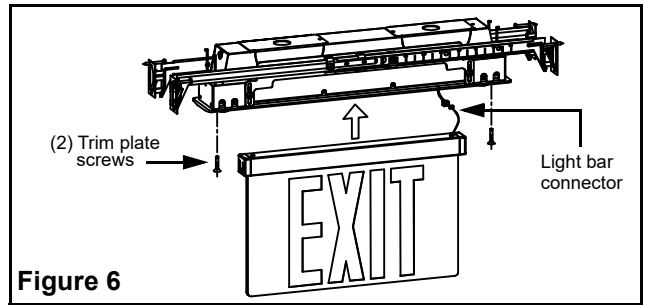

Figure 6
11. Screw the two M3*15 screws into the bar hanger assembly (see fig.6).
12. Close trimplate and use the M3*15 screws to ensure the trimplate will not detach from the housing assembly (see fig.6).